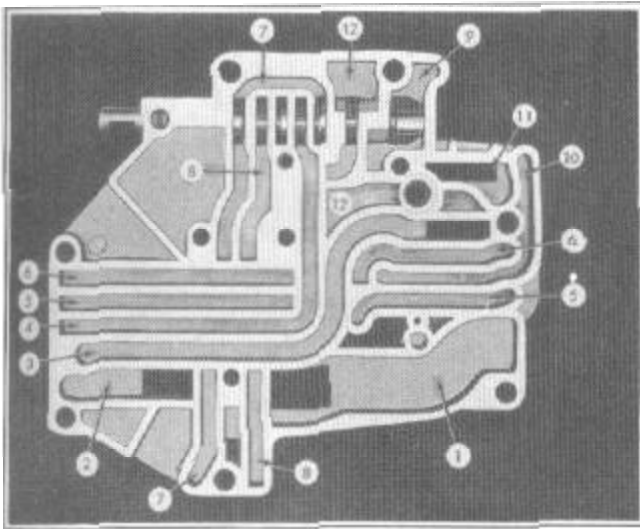

FIGURE 69
3. Check all oil passages in the valve block manifold for obstruction, Figure 69. Also check castings for cracks and sand holes.